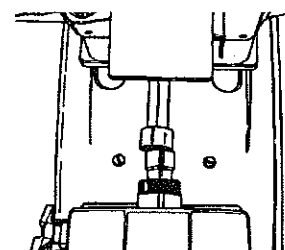

Fig.C-5
9. To align the Jointer horizontally, look to see how much it is out of horizontal alignment. Fig.C-5 shows typical misalignment. Then lift the Jointer from the carriage (21) leaving the Jointer tubes in the carriage tube holes.